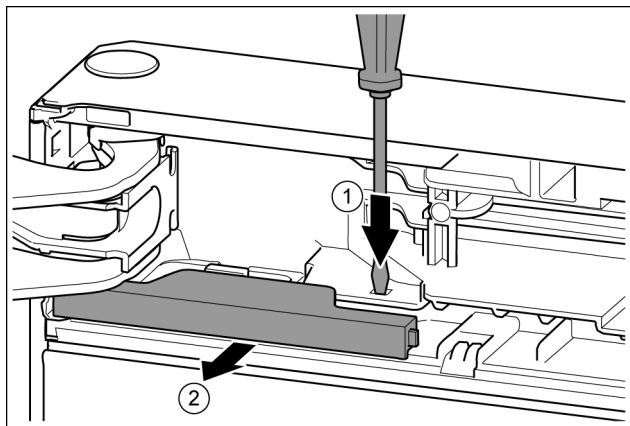

Fig. 12
- Press the tab with the slotted screwdriver. *Fig. 12 (1)*
- Pull cover out of the catch mechanism. *Fig. 12 (2)*